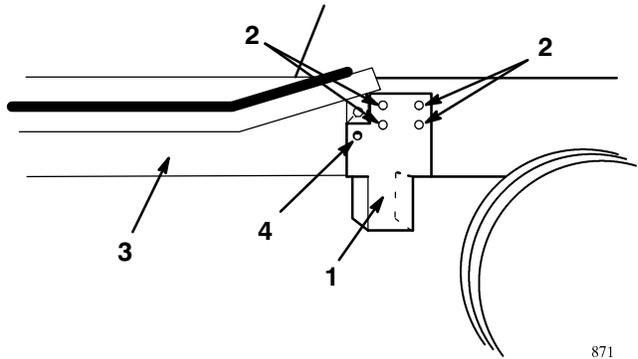

Figure 3
4. Locate the template (Fig. 3) with folded wings below and against the bottom of the right frame rail. Align the hole, marked "Locate," over the 1/4 inch hole in the frame with the wire harness retainer sticking out.
5. Holding the template against the frame, center punch the location of the bracket mounting holes in the frame rail (Fig. 3).
7. Drill four 11/32 (.344) inch diameter holes in the left and right frame rails (Fig. 3).